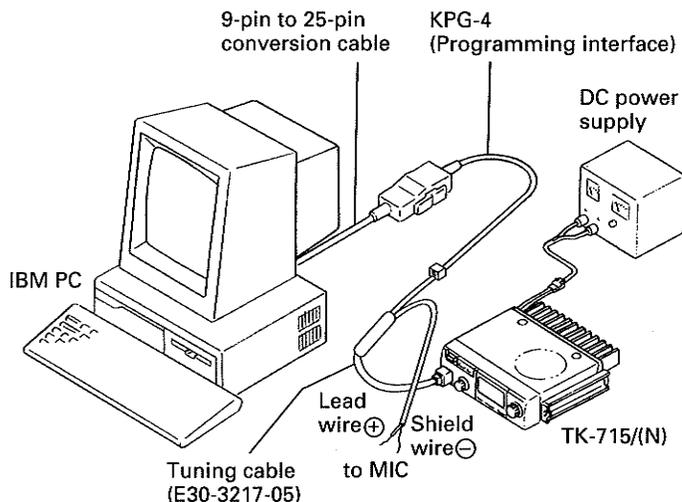

Fig. 1
The TK-715/(N) transceiver is programmed using an IBM PC or compatible machine, a programming interface (KPG-4), and a programming disc. Figure 1 shows the setup for an IBM PC.